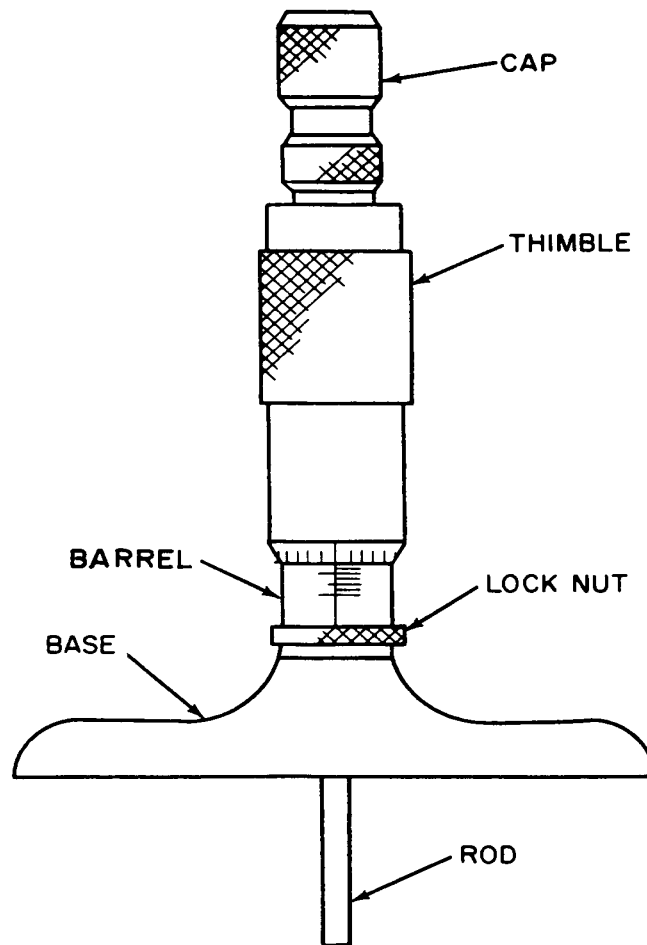

Figure 1. Micrometer depth gage.
(1) Turn thimble of TI counterclockwise until 0 to 1 inch rod recedes beyond working face of base (fig. 1).
(2) Place TI on triangular base component of gage block set.
(3) Turn thimble clockwise until rod makes contact with triangular base, or for three clicks of ratchet.